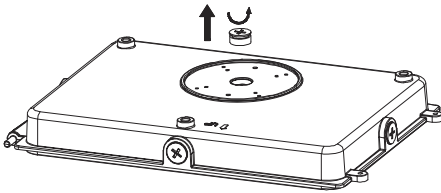

Fig 5
**3.** Feed wires through the 1/2" knock out (Fig 5), and install the rear housing.